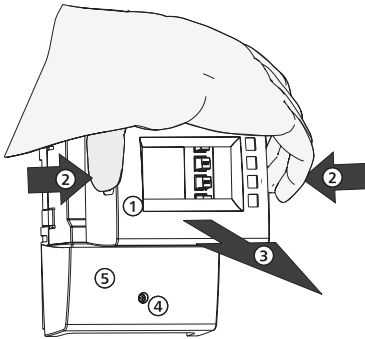

Fig. 1: Removing the front panel
- ▶ Grasp the front panel ① by the grooves at the sides ② and pull forwards ③ (Fig. 1).
1. Remove the screw (Fig. 1).
2. Remove the terminal cover ⑤.